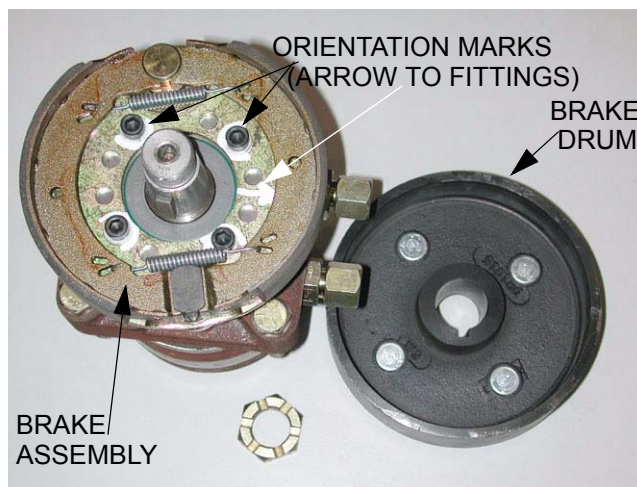

Figure 6.20
- 6.20. Remove the castle nut and brake drum from the axle. See Figure 6.20.